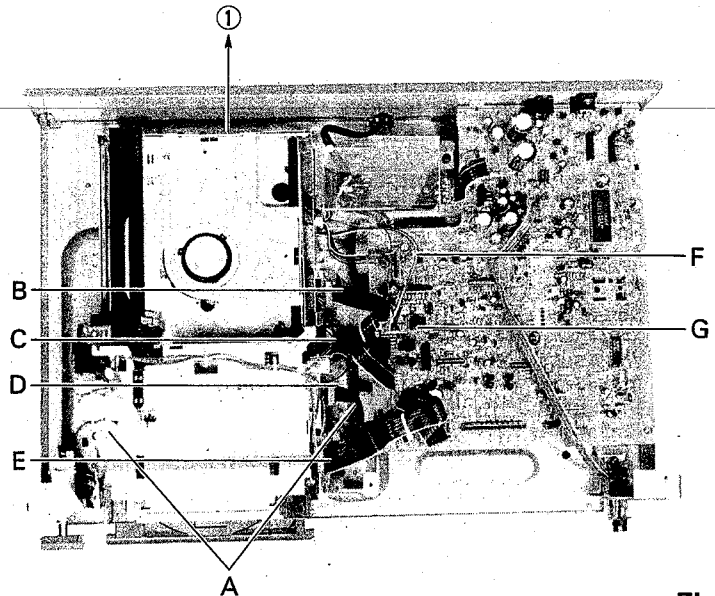

Fig. 1
(3) Removing the changer Ass'y (Fig.1)